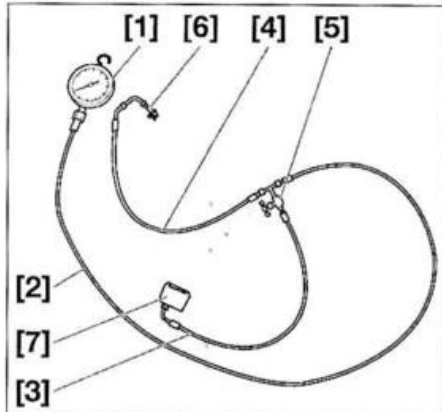

FIG. 21
- Preparar el conjunto de control [1], [2], [3], [4], [5], [6] y [7] (maleta ref. 0710.ZY) (fig. 21).